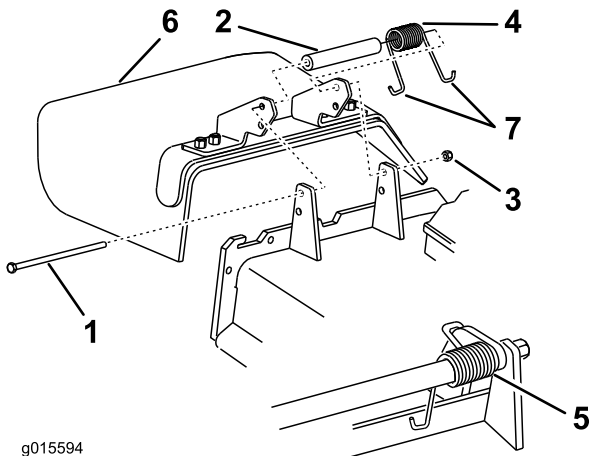

Figure 101
1. Remove the locknut, bolt, spring and spacer holding the deflector to the pivot brackets (Figure 101). Remove the damaged or worn grass deflector.
Note: Make sure one J end of the spring is installed behind the deck edge before installing the bolt as shown in Figure 101.
3. Install the bolt and nut. Place one J hook end of the spring around the grass deflector (Figure 101).